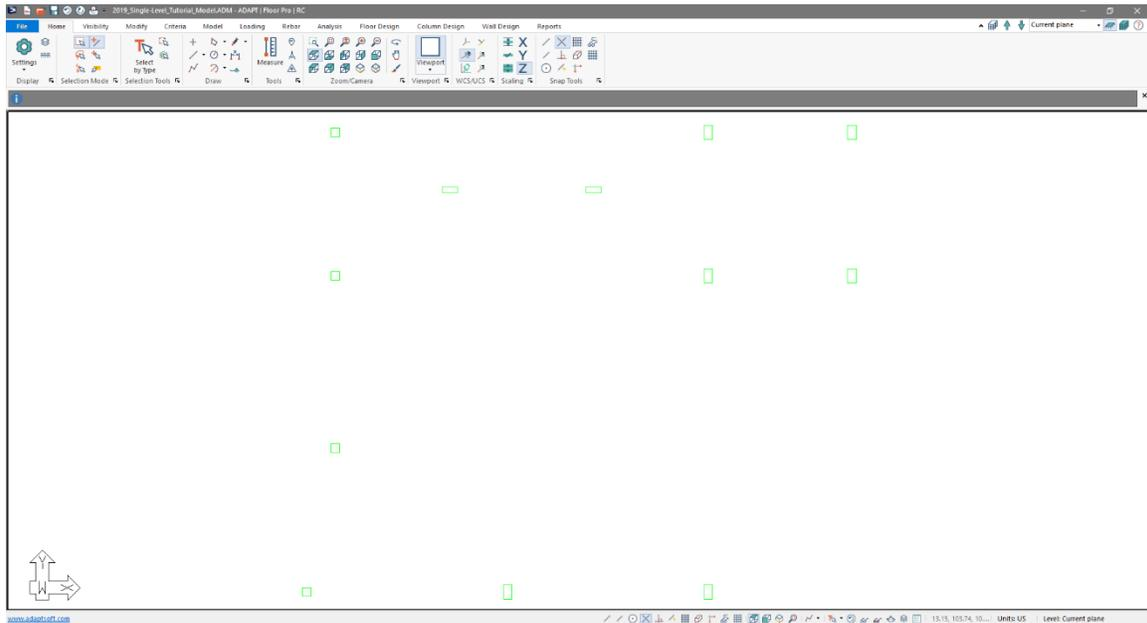

Figure 2-27
- Click on the *OK* button, the user should now see the polylines representing the columns from the imported DWG as shown in **FIGURE 2-27**.